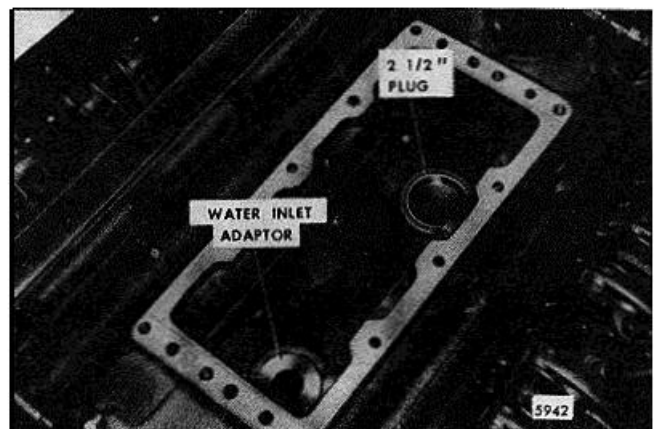

FIG. 5 - Installing Aftercooler Water Plug
- b. Drive the plugs in place with handle J 7079-2 and adaptor J 24597 (2 1/2" diameter plugs, Fig. 5) adaptor J 21849 (for 2" diameter plugs) or adaptor J 21850 (for 1 5/8" diameter plugs).